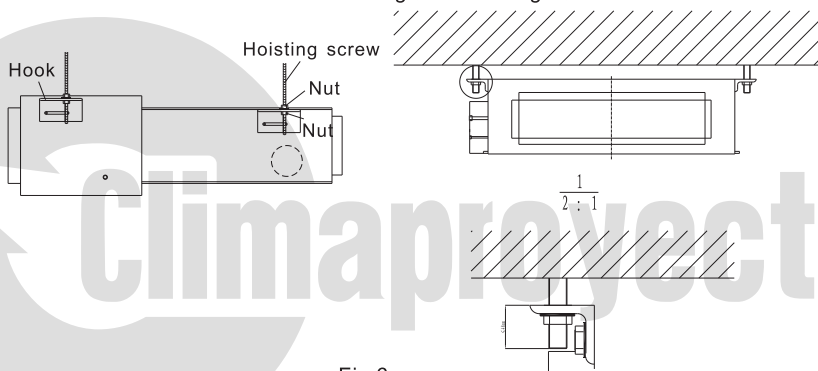

Fig 6
- Install the indoor unit on the ceiling (refer to Fig 6)